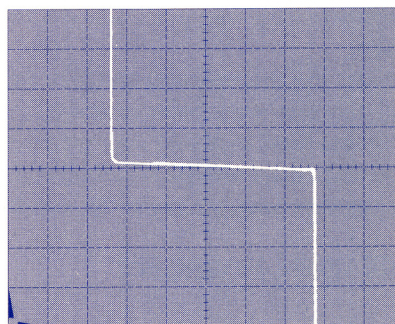

Figure 6-1. Output voltage swing with 2-k Ω load.
- 5) Measure trace — Press UPPER and LOWER STORE buttons on 577 to obtain clear, lasting trace. If necessary, press UPPER and LOWER ERASE first to clear screen. Check to see that middle of the gain curve extends for sufficient horizontal length before making sharp turns to vertical off-screen directions near ends. [2 divs each way from center, equal to ± 10 V at 2 k, and 2.4 divs, or ± 12 V at 10 k]. Refer to Figures 6-1 and 6-2. **3 2**